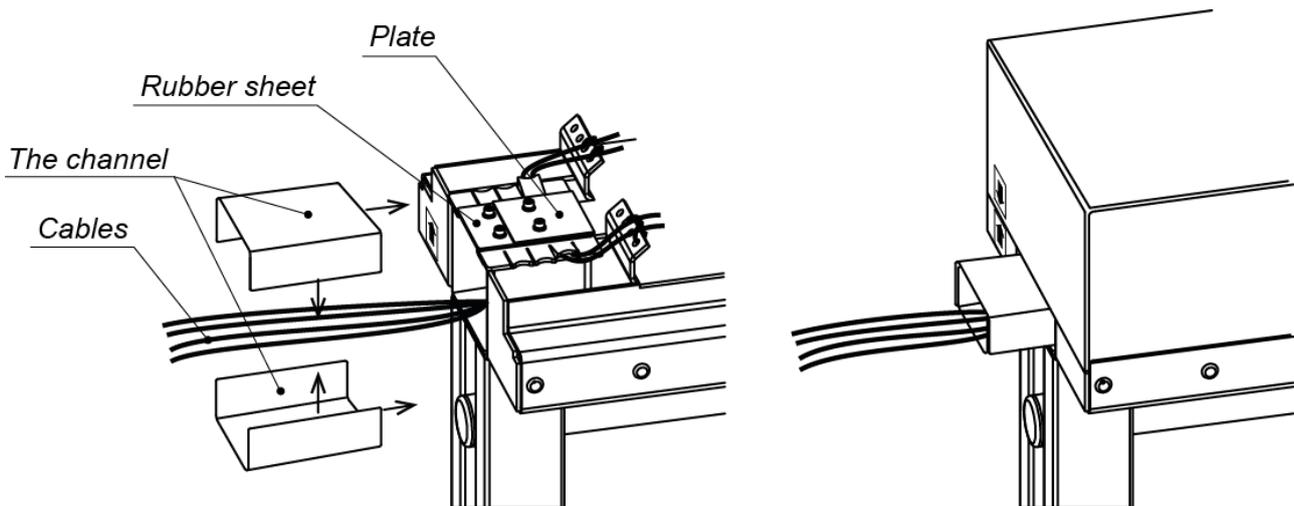

Figure 21. Cable laying between two turnstiles
22. Use the channel from the delivery set in order to lay out the cables atop to connect turnstiles standing close to each other (Fig. 21). Remove the protective inserts prior to the installation of the channels. The larger channel should be located above.